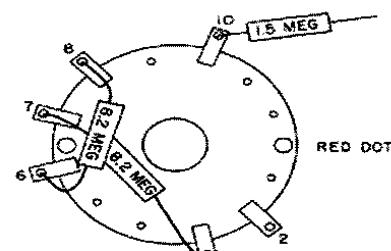

Figure 17 - Placement of parts on the front of deck C.
The first wiring on deck C will consist of installing two resistors on the front of deck C. Refer to Fig. 17 for the placement of these resistors.
- () Connect one lead of an 8.2-megohm, 1% resistor to terminal 3 on the front of deck C. Connect the other lead to terminal 7 on the front of deck C. See Fig. 17 for placement of the resistor. Cut off the excess wire. Solder terminals 3 and 7.
() Connect one lead of an 8.2-megohm, 1% resistor to terminal 6 on the front of deck C. Connect the other lead to terminal 8. Position the resistor as shown in Fig. 17. Solder terminals 6 and 8 on the front of deck C.